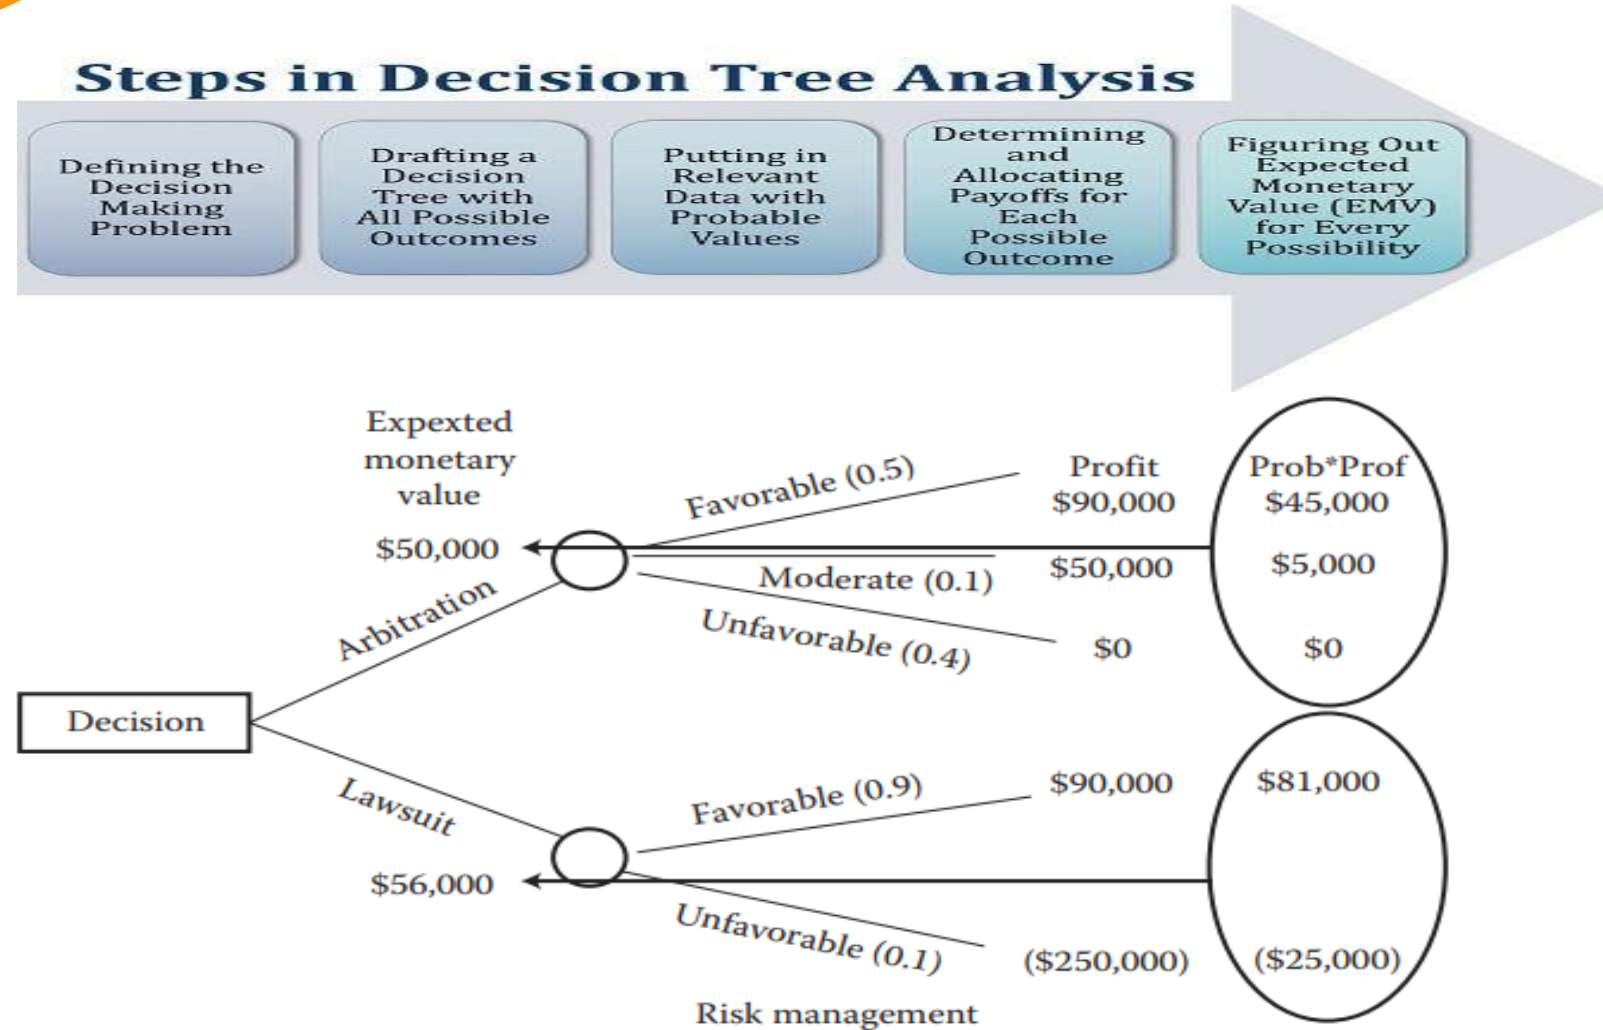

Figure 22.2 Sample decision tree analysis. (From Richardson, G.L. 2010. *Project Management Theory and Practice*. New York: CRC Press, Taylor & Francis Group.)
- ❑ Solving the decision tree provides the expected monetary value for each alternative when all the rewards and subsequent decisions are quantified, such as the example decision tree in Figure 22.2.